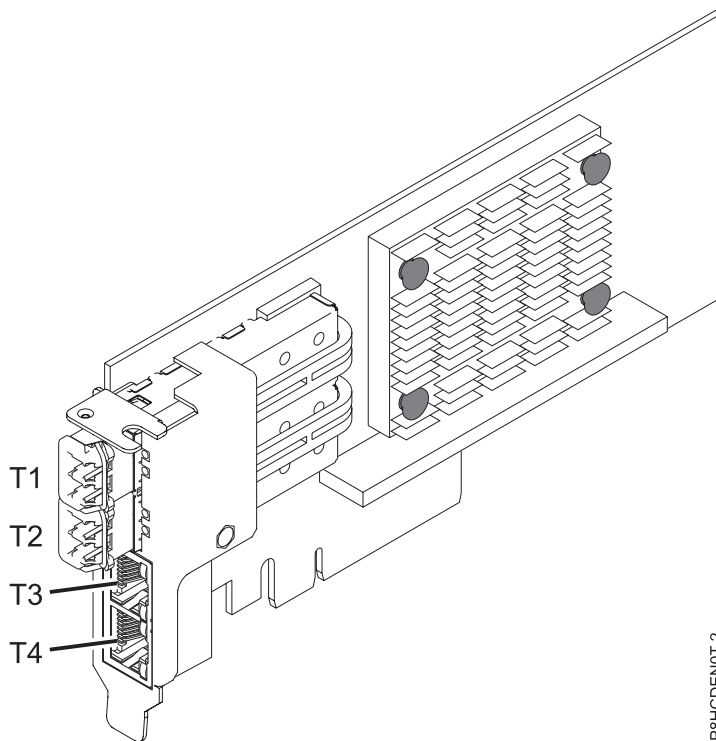

Figure 32. FC EN0T adapter
The four-port adapter provides two 10 Gb small form-factor pluggable (SFP+) optical SR transceiver ports and two 1 Gb RJ45 Ethernet ports. The two 10 Gb SR ports have little connector (LC) duplex-type connectors. The optical transceiver uses shortwave laser optics and is attached with MMF-850nm fiber cabling with LC connectors. See “Cables” on page 54 for more information about the optical cables. Each 10 Gb port provides Ethernet connectivity with a nominal data rate of 10 Gbps (gigabits per second). Figure 32 on page 53 shows the FC EN0T adapter.